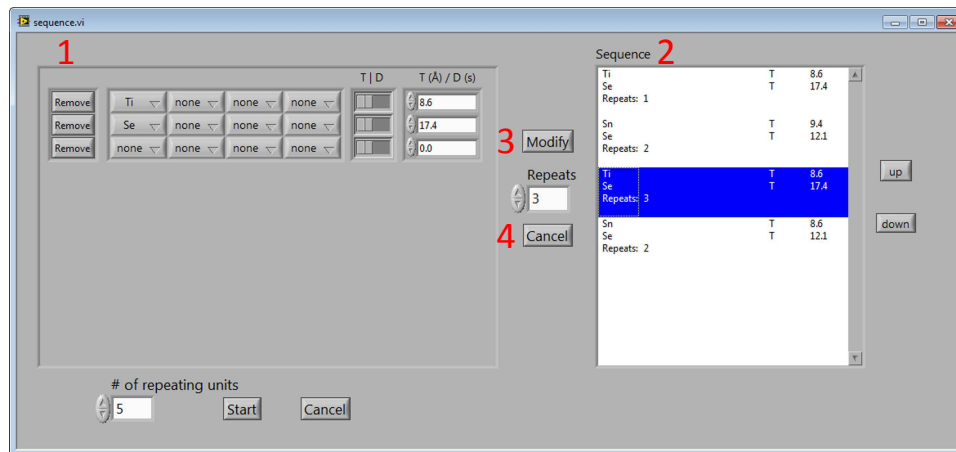

Figure 3.5: Front panel of the sequence builder when a layer set is modified.
The layer sets themselves can be modified by double-clicking on them. This will transfer the layer set to the layer set panel (1) and change the appearance of the front panel (see Figure 3.5). The layer set panel (1) can be manipulated the same way as when a layer set is added. The changes are saved with the “Modify” button (3), and cancelled using the “Cancel” button (4). The layer set panel will return to the layers it contained before the double-click.